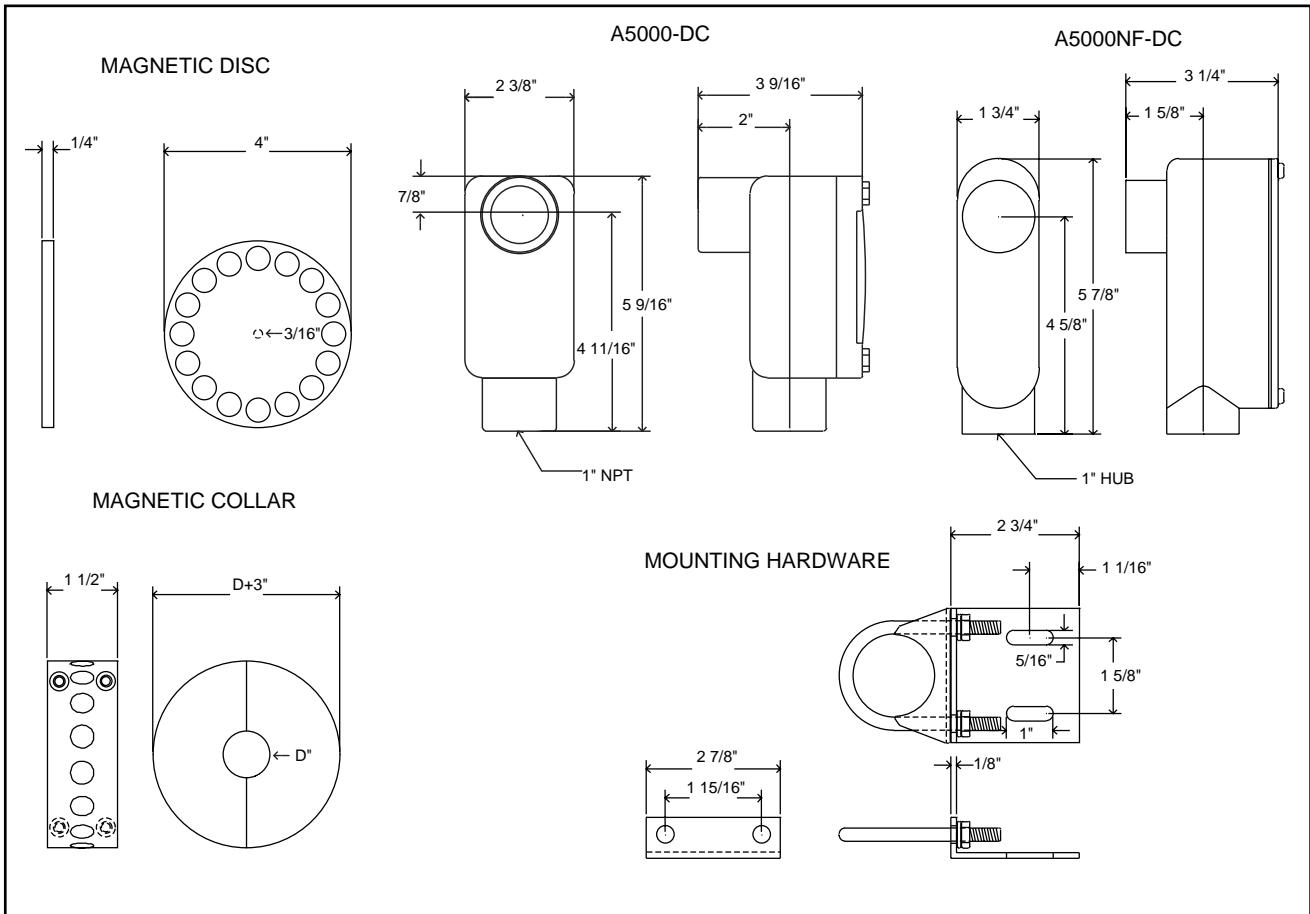

Figure 2
4.1 The A5000-DC zero speed switch housing is certified for Class I, Div. 1 & 2, Group C & D. Class II, Div. 1 & 2, Group E, F, & G. Class III, cast aluminum construction (see figure 2, page 3).
4.2 The A5000NF-DC zero speed switch housing is certified for NEMA 3, water resistance, PVC construction (see figure 2, page 3).